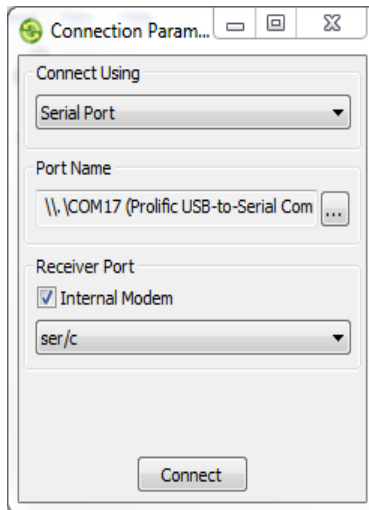

Figure 3-3. Connection Parameters
5. Check mark the *Internal Modem* box and select *ser/c* from the drop-down menu (Figure 3-3).